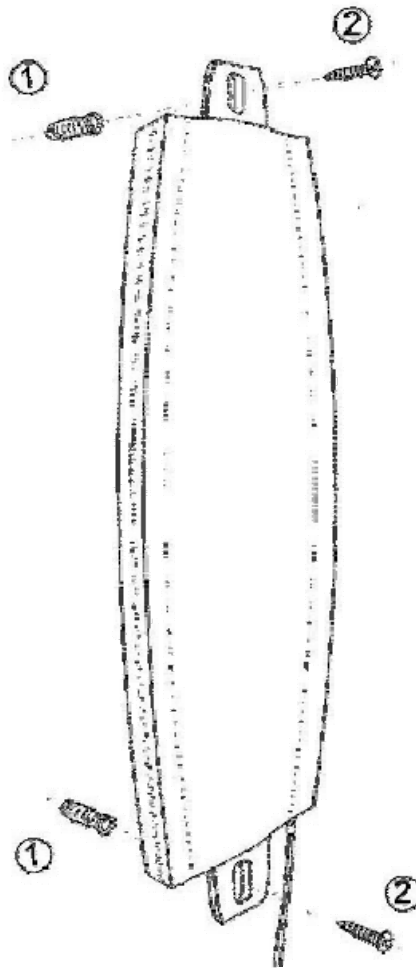

Figure 2-15: Wall Mounting the Antenna
- 2 Fasten the antenna to the wall. Refer to Figure 2-15 for directions. Use the two #8 screws provided with the kit. Do not over tighten.